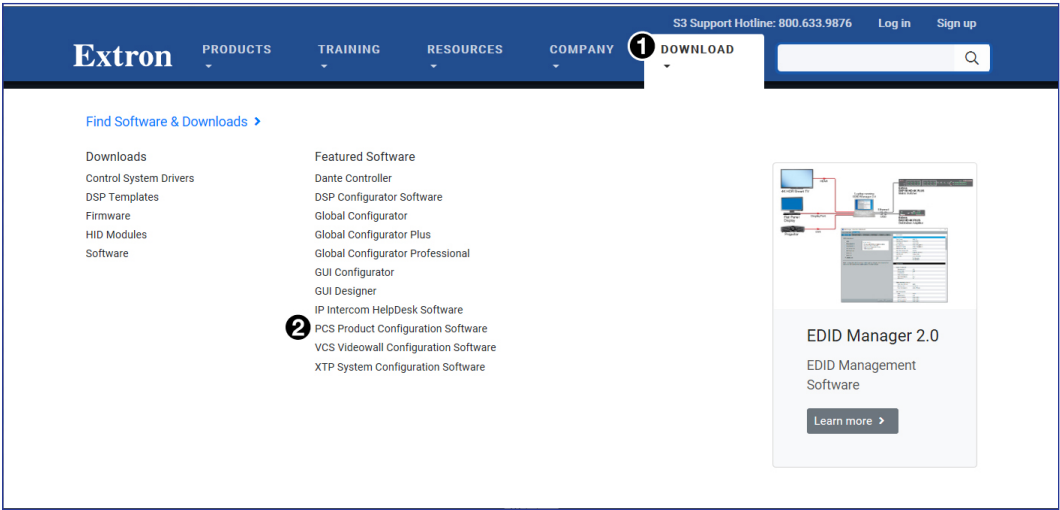

Figure 28. PCS Download from the Extron Website
1. On the Extron website, mouse over the **Download** tab (see figure 28, 1).
2. From the drop-down menu, click the **PCS Product Configuration Software** link (2).